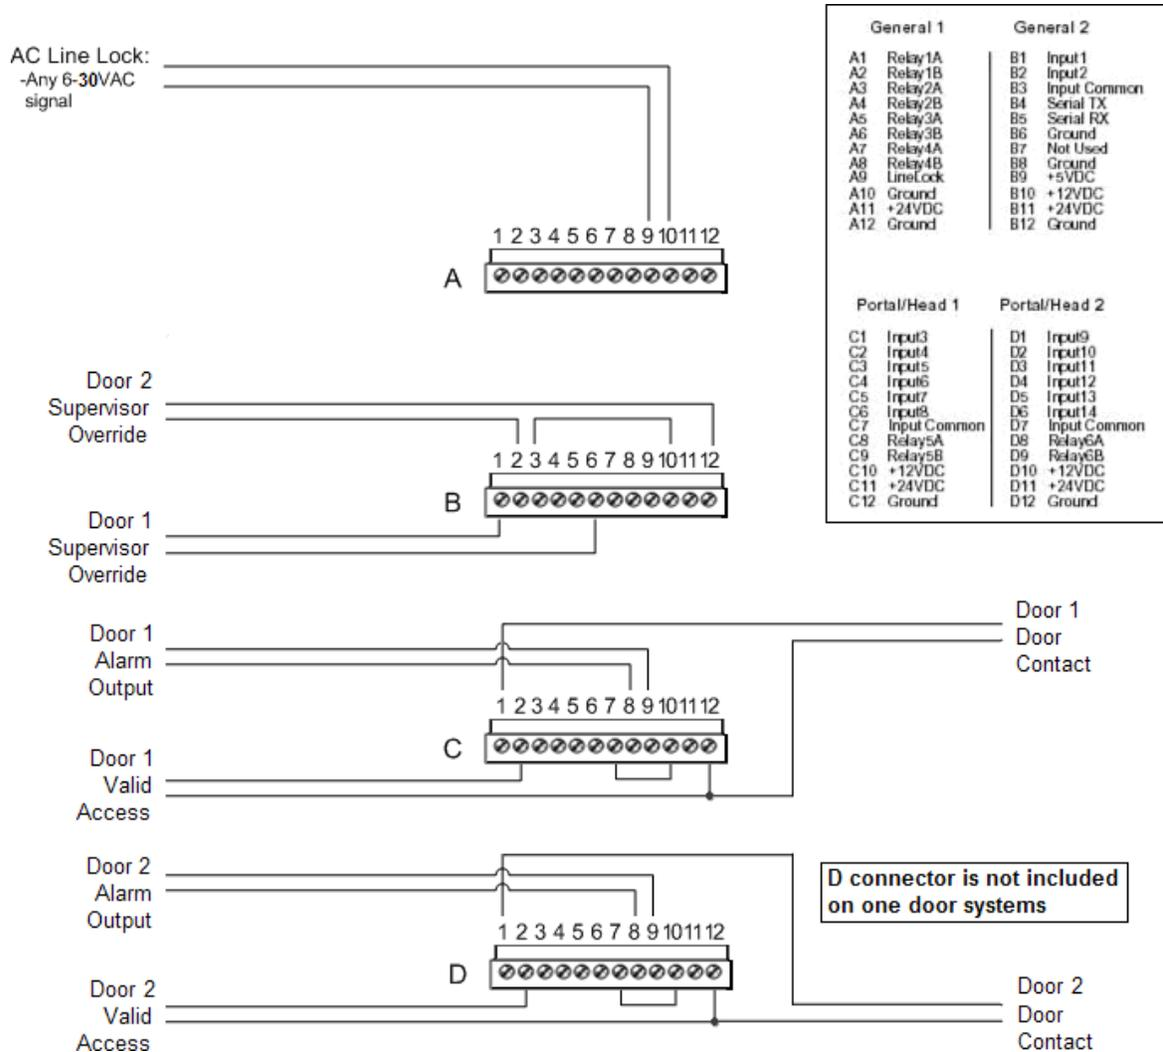

Figure 17 - Typical Configuration
7. Install and terminate an adequate number of wires to support the inputs and outputs that will be utilized on the system. Detailed examples of connections are available in Figure 17.
3. Refer to Figure 17 for detailed examples of configuration.